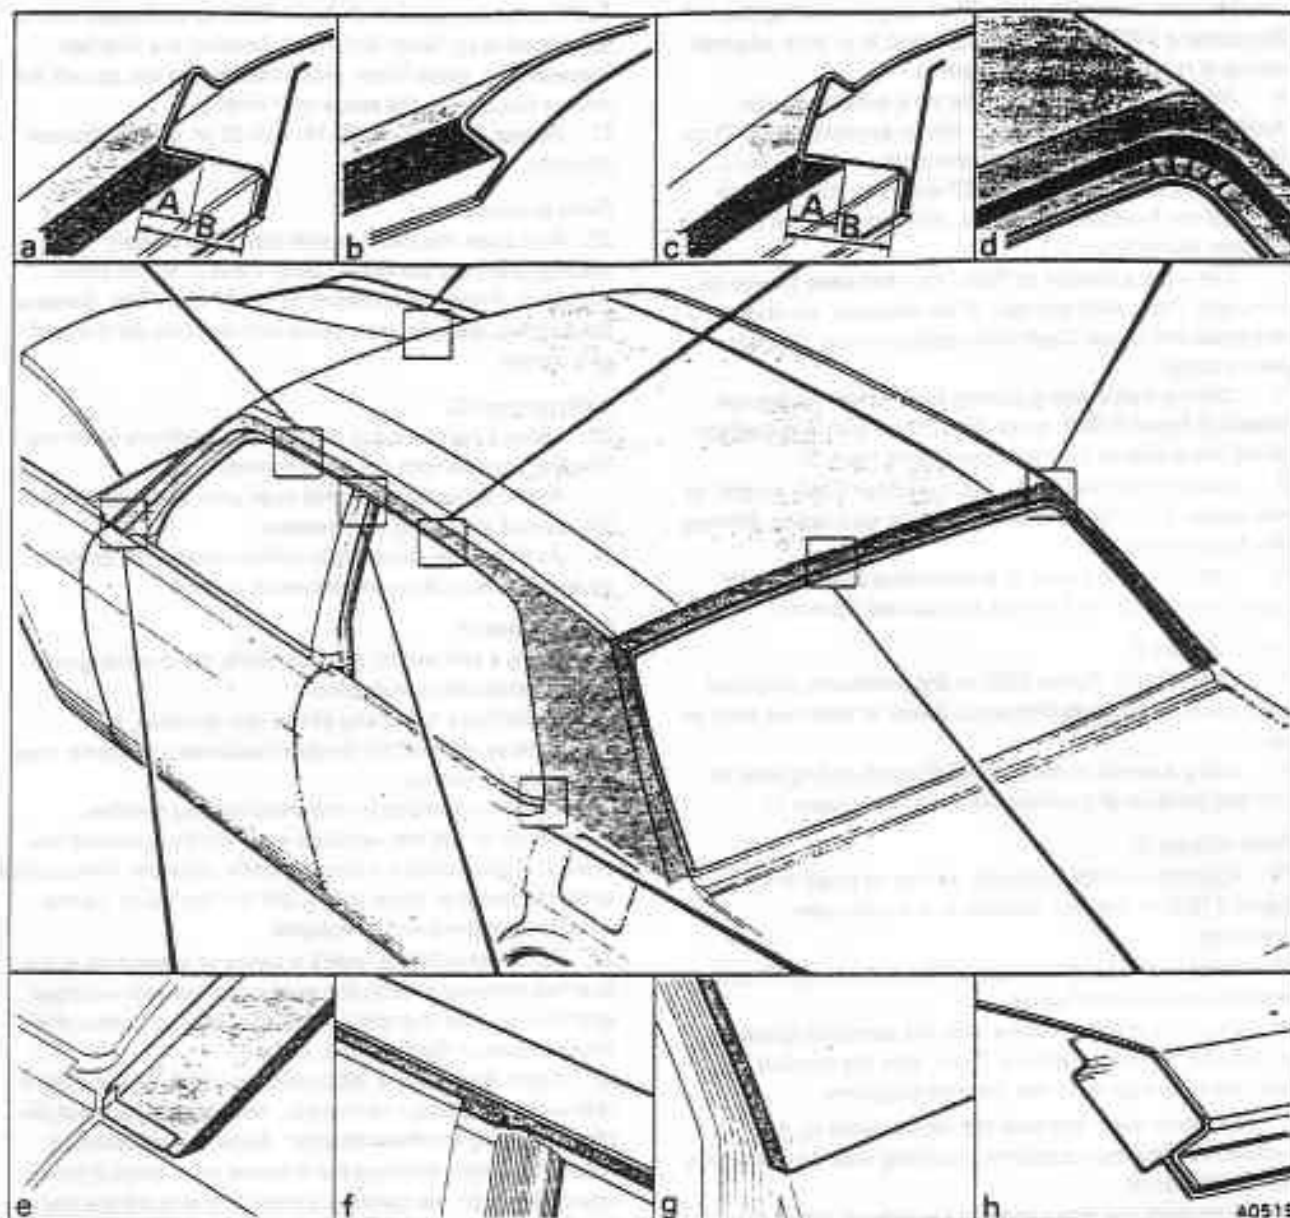

Fig. S18-4 Everflex roof
27. To facilitate fitting, make a series of small cuts in the Everflex material at both top corners of the rear window aperture. Ensure that the cuts do not extend further than those shown in figure S18-4, inset d.
29. Trim the excess Everflex material from around the rear window aperture as shown in figure S18-4, inset h.
30. Carefully trim the Everflex material to fit around the upper 'BC' post (see fig. S18-4, inset f).
36. Trim the excess Everflex material from around the windscreen aperture as shown in figure S18-4, inset b.
37. Trim the excess Everflex material from around the front and rear door apertures to the dimensions shown in figure S18-4, insets a and c.